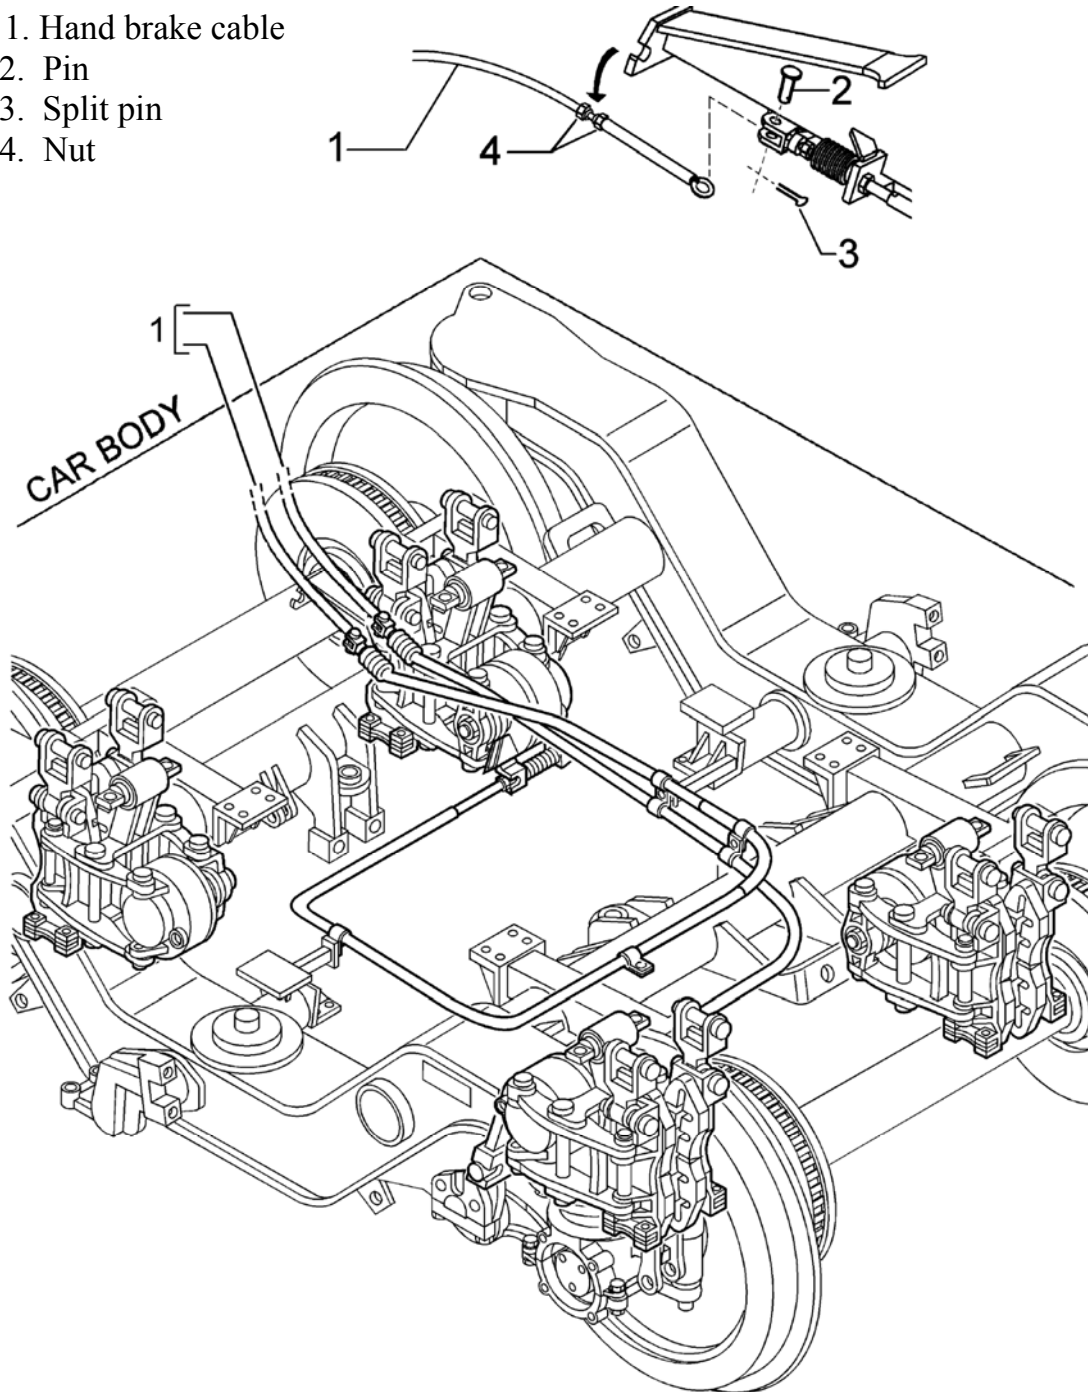

FIG. 4-14 DISCONNECTIONS OF HAND BREAK CABLES
When working on bogie 1267334 it is necessary to disconnect the hand brake cables (1-FIG. 4-14 -after releasing the hand brakes): extract the split pin (3) and the pin (2), then untighten the nuts (4) and remove the cables (1) from the frame support.